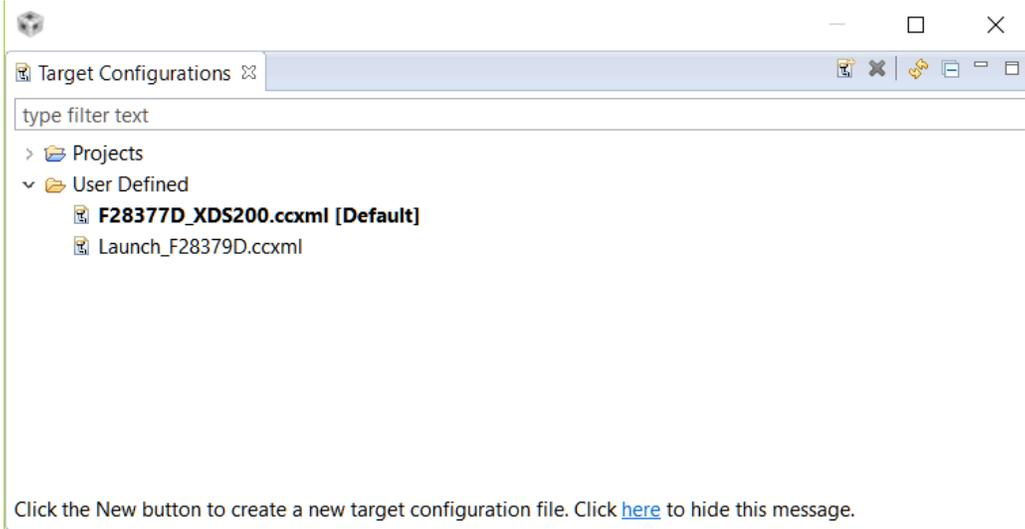
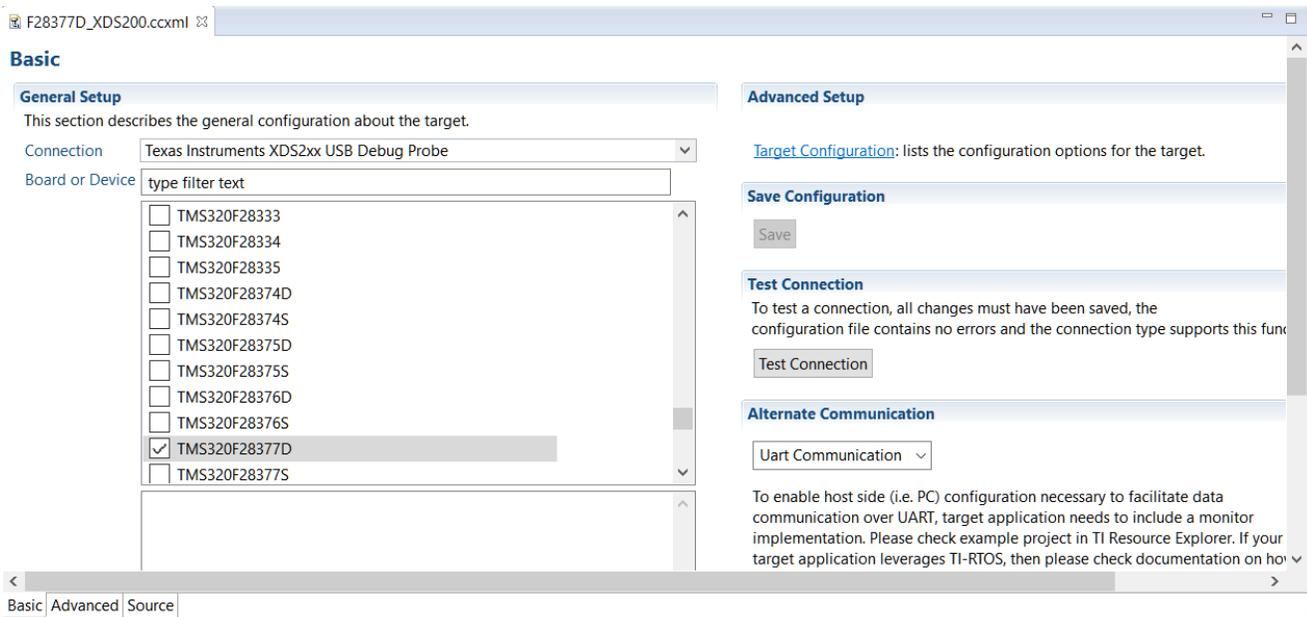

Figure 4-2. Target Configurations View
Figure 4-3. Test Connections
- Check Target Configuration:** The Target Configuration File (.ccxml) contains the information necessary to connect to your target device and the JTAG debug probe being used. To view the current target configurations, select Target Configurations (Figure 4-2) under the "View" tab in CCS. Double click on the .ccxml corresponding to the target that is being debugged. If the drivers for the debug probe are installed correctly and the correct options are selected, the Test Connections button (Figure 4-3) should be available and ready to execute. The datalog from this test can assist in isolating the cause for the connection issues, do not skip this step. Note that many example projects are installed as part of C2000Ware or controlSuite have a "target configs" folder. This has a .ccxml file pre-created based on a an assumption of a default EVM and debugger. This file is used when the "Debug" icon is used to launch the debug session. If the "Debug" button is the desired method to launch the debug session, the .ccxml in "target configs" need to be modified.